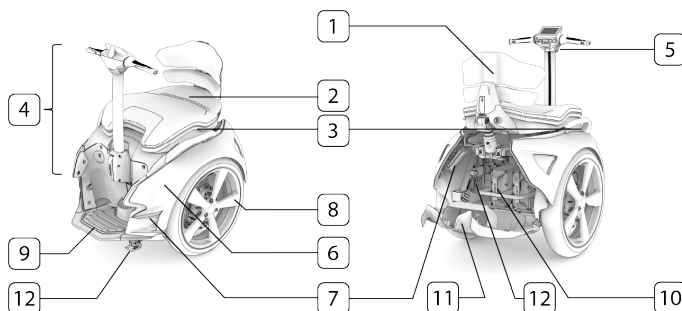

Figure 4.1 - List and location of the main functional components
- The powertrain is the heart of GENNY and contains the control electronics, traction and stabilisation elements (parking assembly). The Figure 4.1 - List and location of the main functional components shows the main components of both.